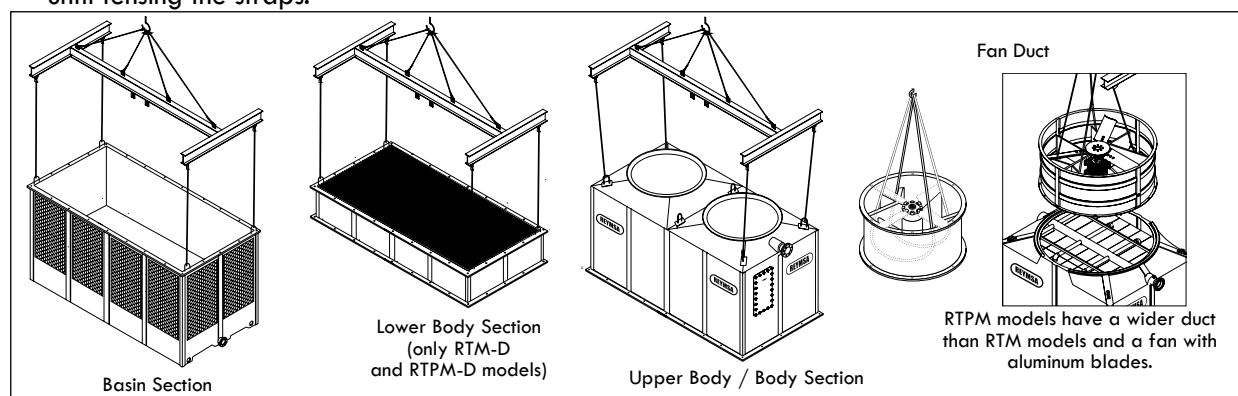

Figure A-55: Crane lifting for a modular tower (RTM or RTPM)
- B.** After assuring the equipment is received in proper condition, proceed to unload it from the transportation vehicle, piece by piece, with a crane (using a spreader bar) or forklift of the appropriate capacity, see Figure A-55 for an example. If you unload with a forklift, use fork extensions of the proper pallet length according to the width of your model.
- C.** For crane lifting, it's recommended to use a minimum lifting angle of 60° between the strap and the horizontal. Each section of the Tower has U-bolts for lifting. Place the straps through the U-bolts (as shown in Figure A-55) and use a spreader bar to avoid damage on the upper edge of the Tower. Don't balance until tensing the straps.